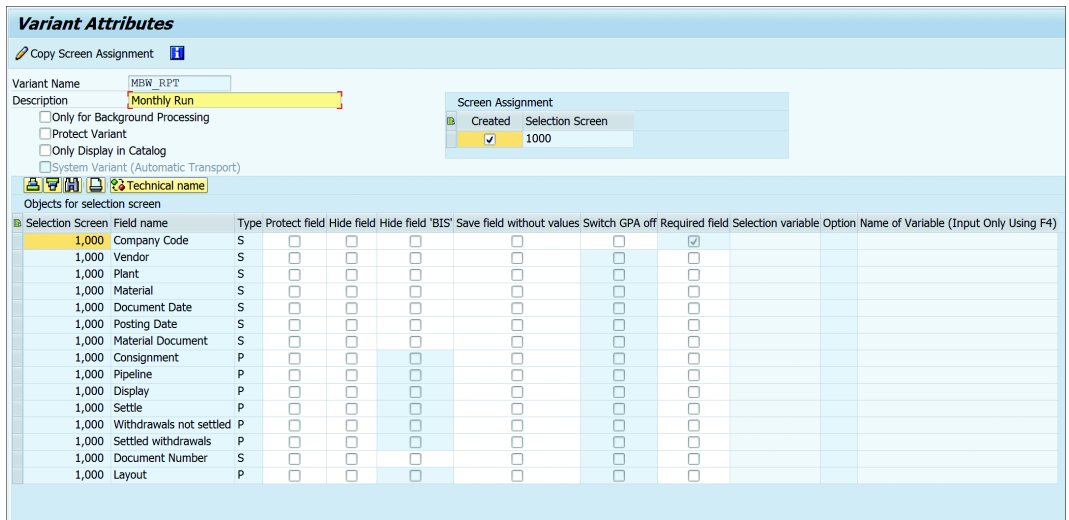

Figure 14.4 Attributes Screen
4. The VARIANT ATTRIBUTES screen, as shown in Figure 14.4, has options that can be maintained for the selection screen fields. Some of the important options include the follow:
The attributes of selection screen fields can be changed in a variant. For example, you can hide a field or restrict overwriting a field value. The INFORMATION icon on the VARIANT ATTRIBUTES screen (refer back to Figure 14.4) provides documentation to explain the purpose of each option.